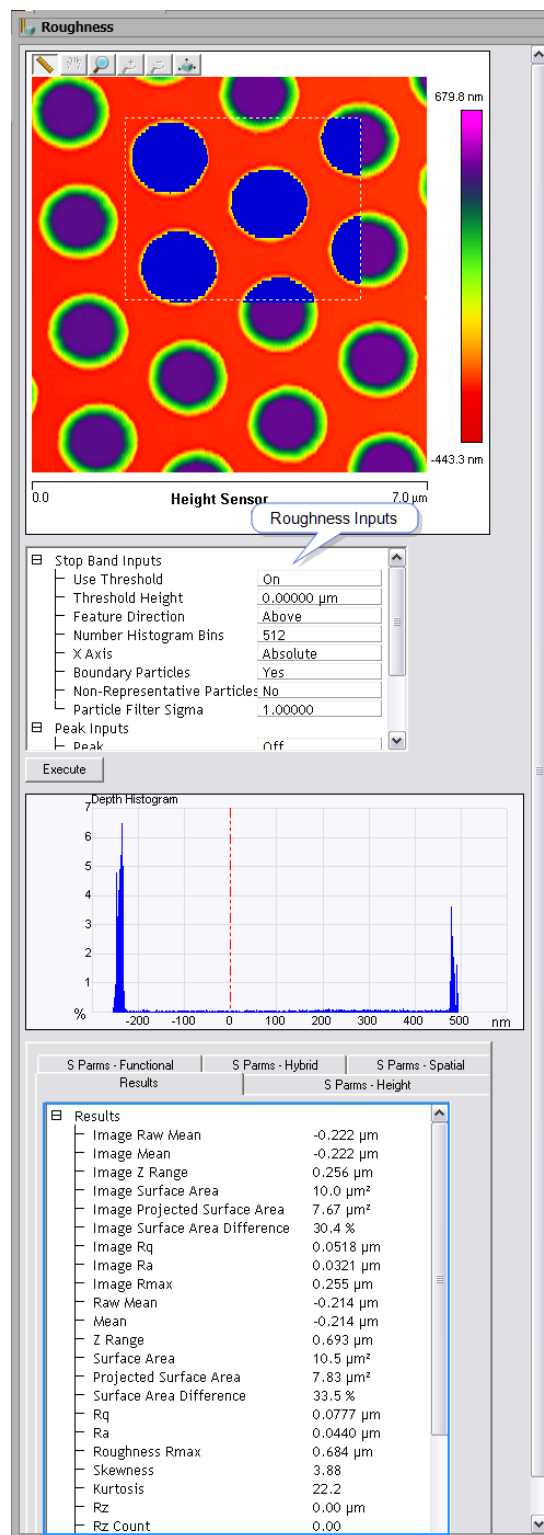

Figure 5.10b: Roughness Analysis Menu & Window
2. Open the **Roughness** analysis by selecting Analysis > Roughness from the **Menu** bar or by clicking on the **Roughness** icon from the **Icon** toolbar. The **Roughness** view, shown in Figure 5.10b, appears showing the results for the entire image.